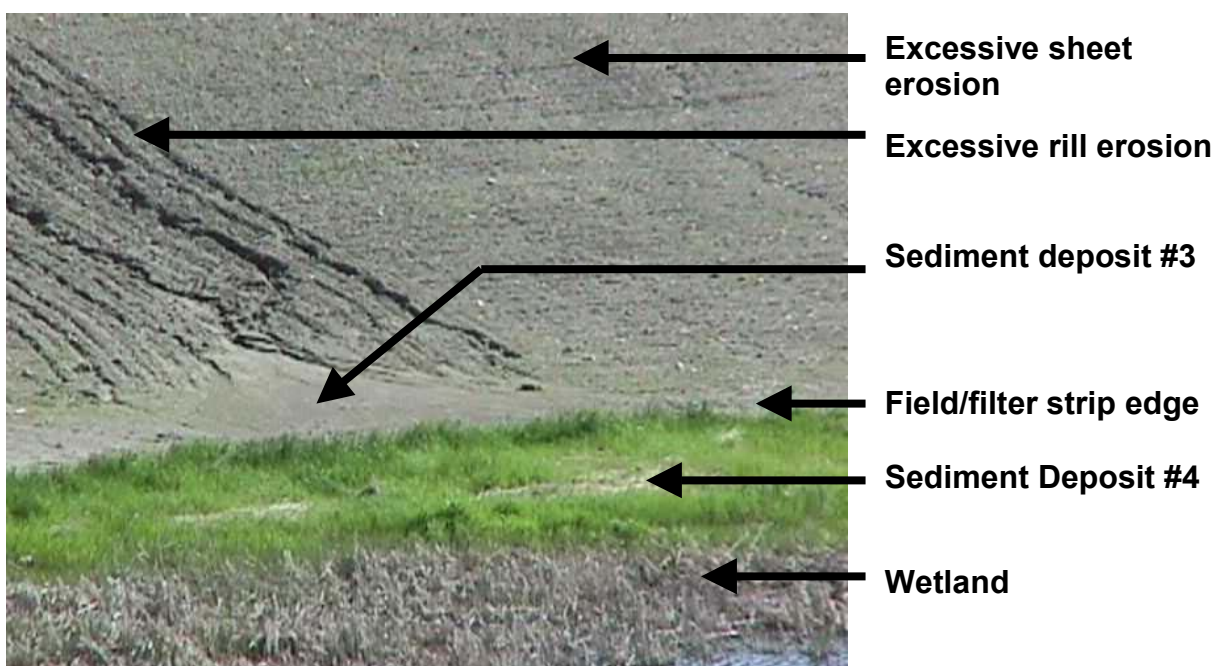

**Figure 2**
**Figure 2** illustrates the damage that can result from high levels of sheet erosion combined with **concentrated flows**. This filter strip is non functional. The filter strip is unable to handle the **concentrated flow** of water and **sediment** coming from the field or flowing parallel to the edge of the filter strip. Filter strip management must begin by controlling the **sediment** originating in the **field**. Potential sheet erosion control practices within the **field** could be crop rotation, conservation tillage, contour buffer strips, or contour strip cropping. Adequate sheet erosion control and improved soil tilth may or may not remove the need for grassed waterways or vegetative barriers to control **concentrated flows**. At the field/filter strip edge, a **vegetative barrier**, **level berm**, **spreader ditch**, or **water bars** may be needed to change **concentrated flow** to sheet flow. At least one of these water spreading devices may be needed whether the waterway is constructed or not.